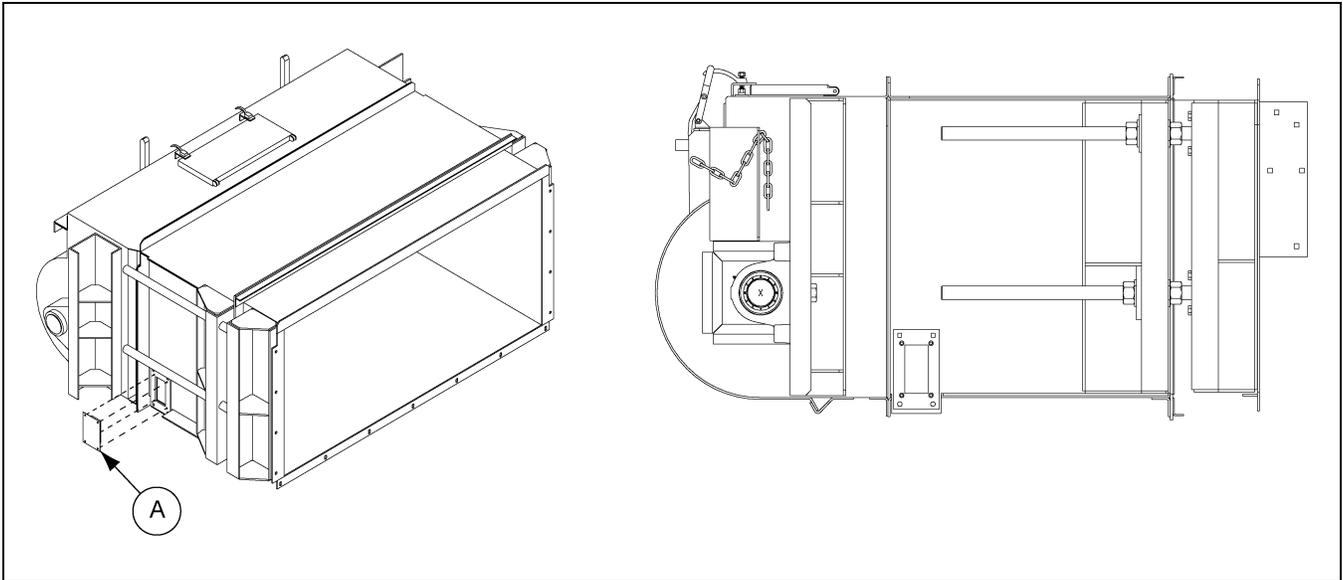
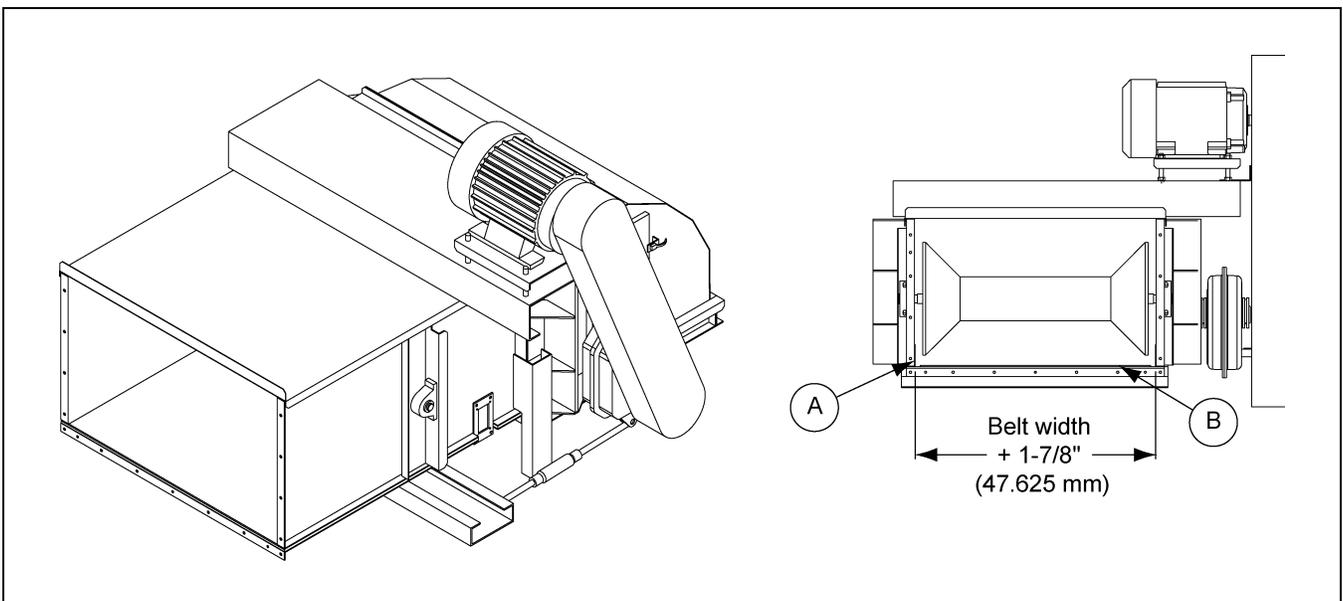

Figure 5D Rub-Block in Tail/Take-Up Section
Figure 5E Rub-Block in Short Section
1. Sensors shall detect any abnormal tracking of the conveyor belt, and bring the conveyor to a safe stop before a hazardous situation can occur. 'Rub-blocks' are located at the tail/take-up section (See Figure 5D), and in the short section immediately following the head/drive section. (See Figure 5E.)